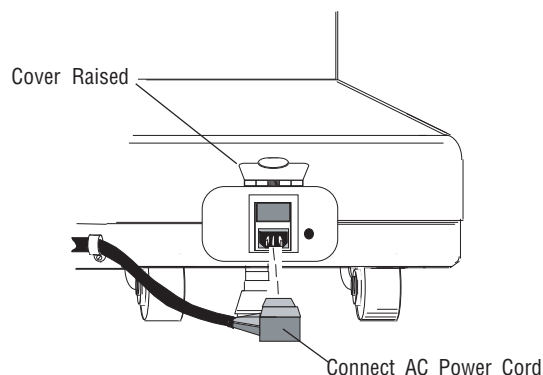

Figure 6-3. Change Batteries
1. Connect ac power cord to table base and plug into an appropriate ac receptacle (see Figure 6-3).